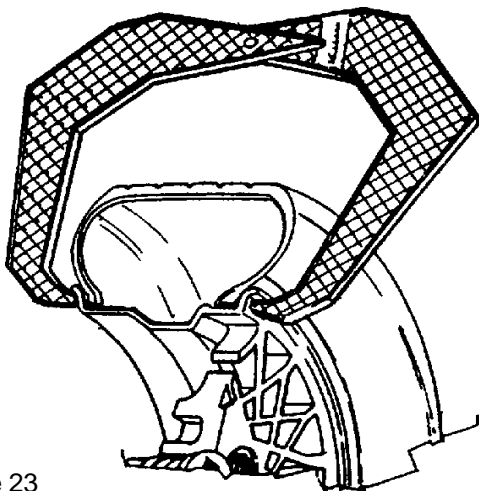

Figure 23
**4.5.2. Measure rim width** using rim width calipers. Measure wheel where corrective clip-on weight would be applied, Figure 23. Enter the measured width by pressing the **UP** or **Down** arrow button until the desired value appears in the center display.